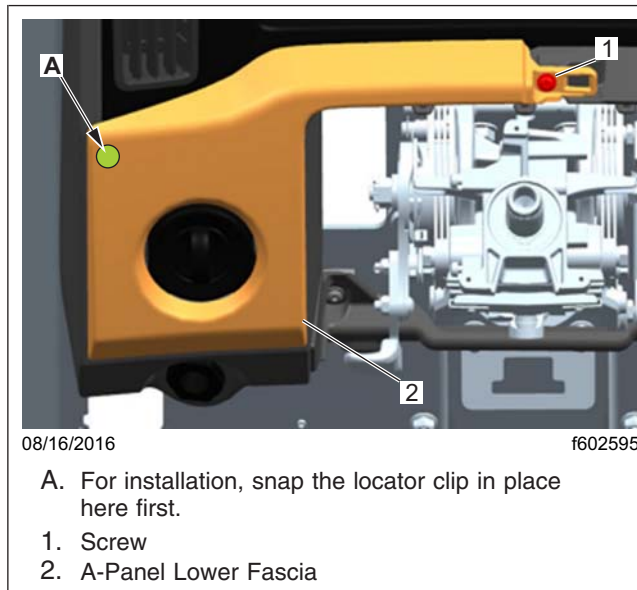

Fig. 4, Lower A-Panel Fascia Removal
5.4 Remove the lower A-panel fascia. See Fig. 4.